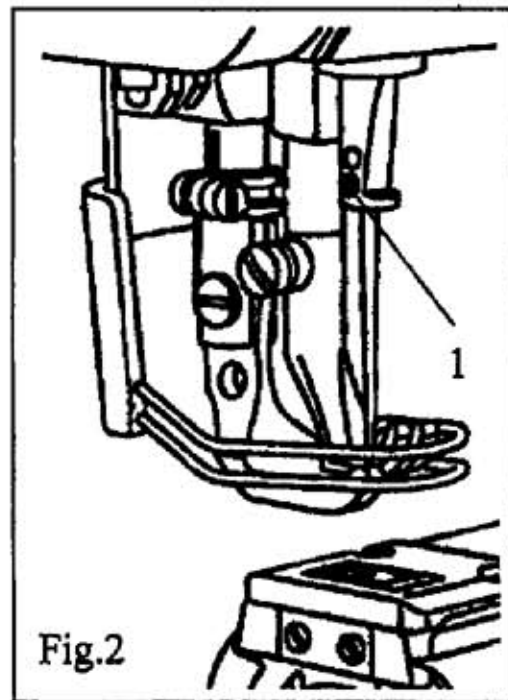

Fig.2
(2) Attaching the needle (Fig.2)